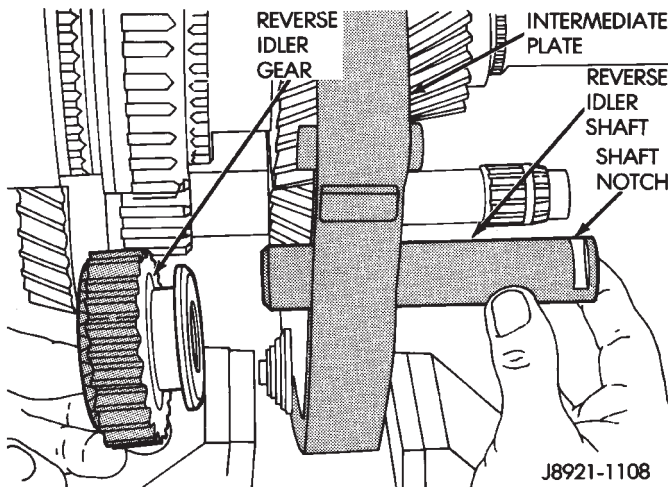
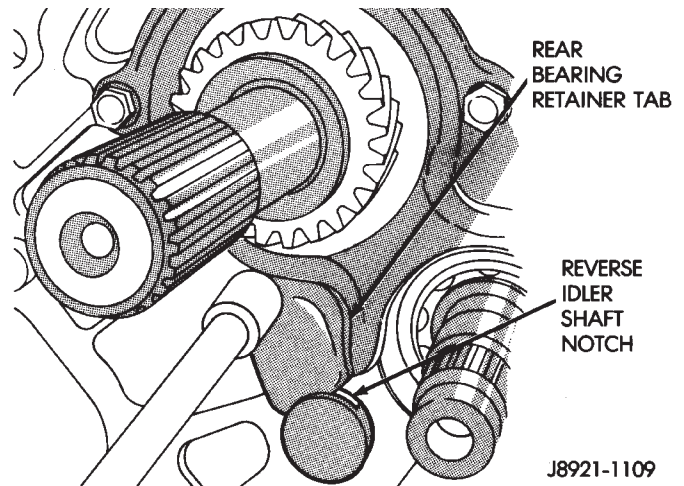

Fig. 92 Install Reverse Idler Gear And Shaft
Fig. 93 Install Output Shaft Rear Bearing Retainer
(23) Install reverse idler gear and idler gear shaft (Fig. 92). Verify that the notch in the idler shaft is to the rear of the transmission.
(24) Position output shaft rear bearing retainer on intermediate plate and into reverse idler shaft notch.
(25) Install new bolts to hold retainer to intermediate plate (Fig. 93).